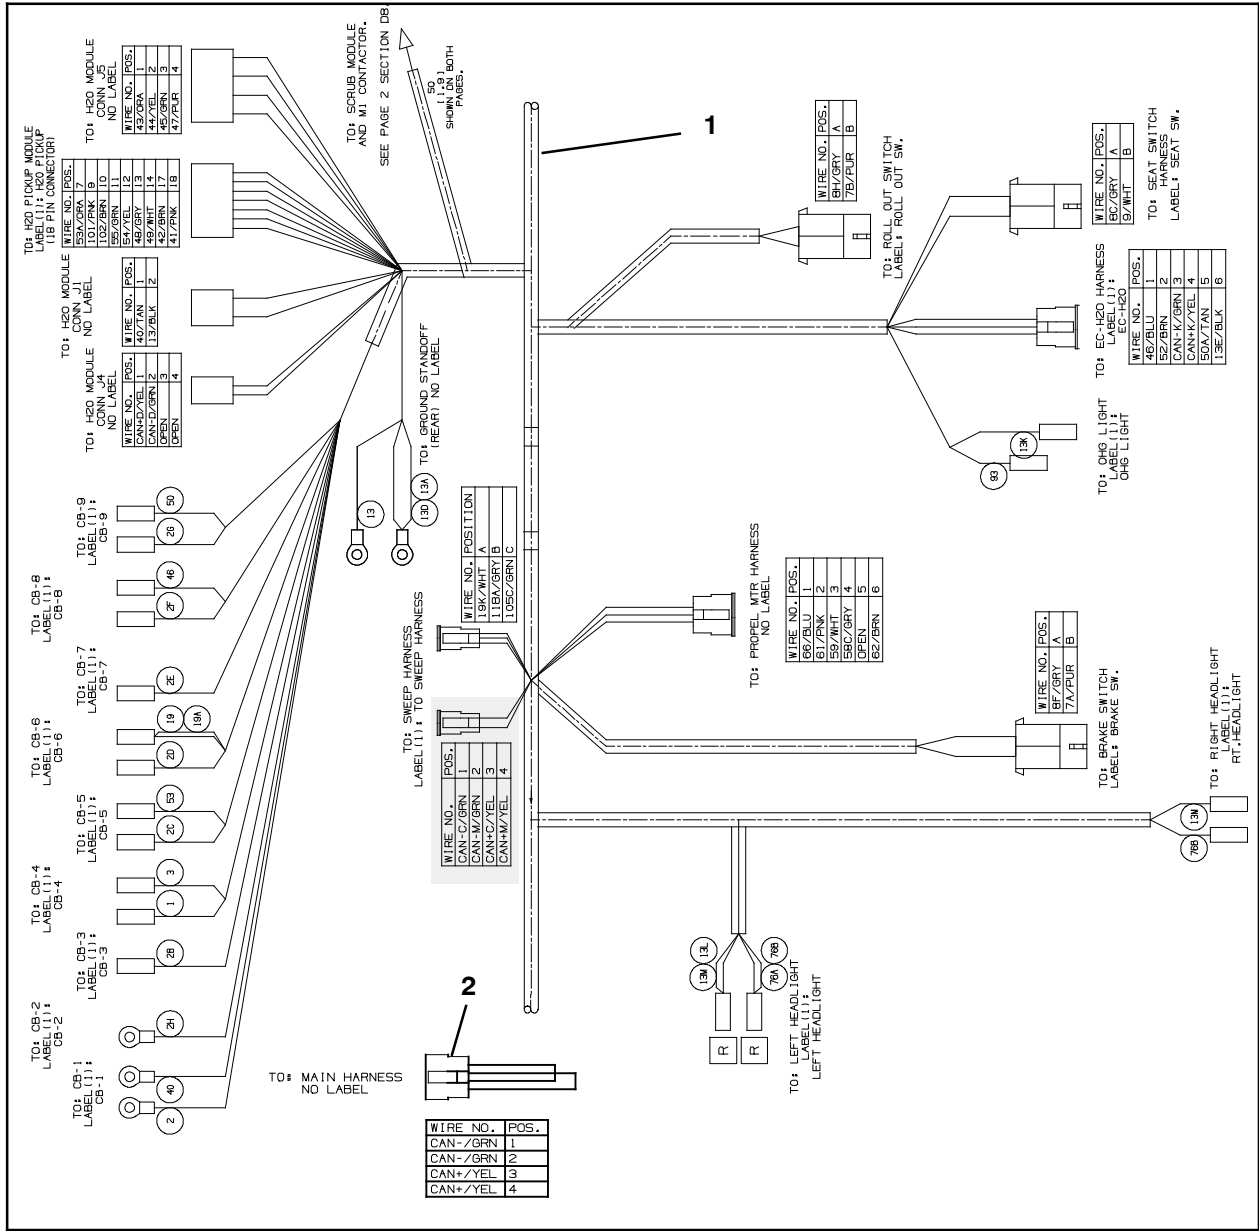
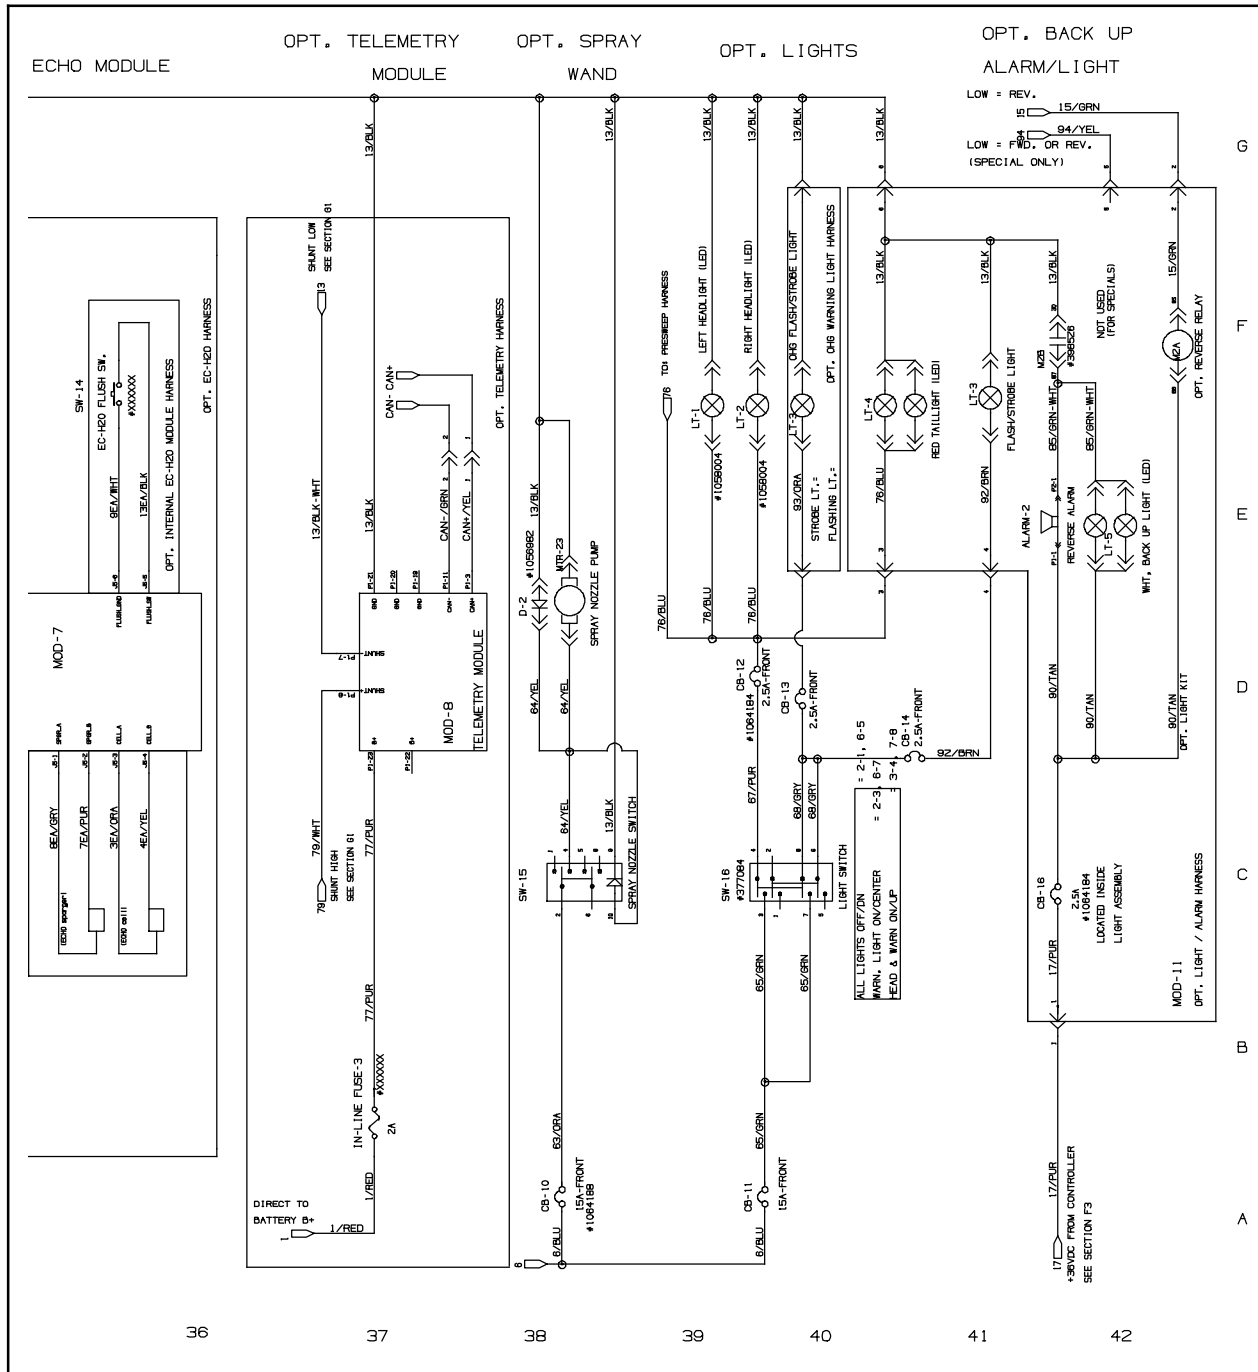

FIG. 1
FIG. 10
11. Cut all cable ties securing the main wire harness to the machine and remove the main wire harness from the machine. Discard the removed main wire harness. Note approximate wire tie locations (if necessary photograph wire tie locations for later reference). New main wire harness (1) will need to be secured to the machine in the same areas.
12. Connect the adapter harness (2) to the main wire harness (1). (Fig. 1)
13. Install the new main wire harness (1) onto the machine. (Fig. 1 through Fig. 10)
14. Use cable ties to secure the main wire harness (1) to the machine.
17. Reinstall all items removed from the machine to install the main wire harness (1) in reverse order of removal.